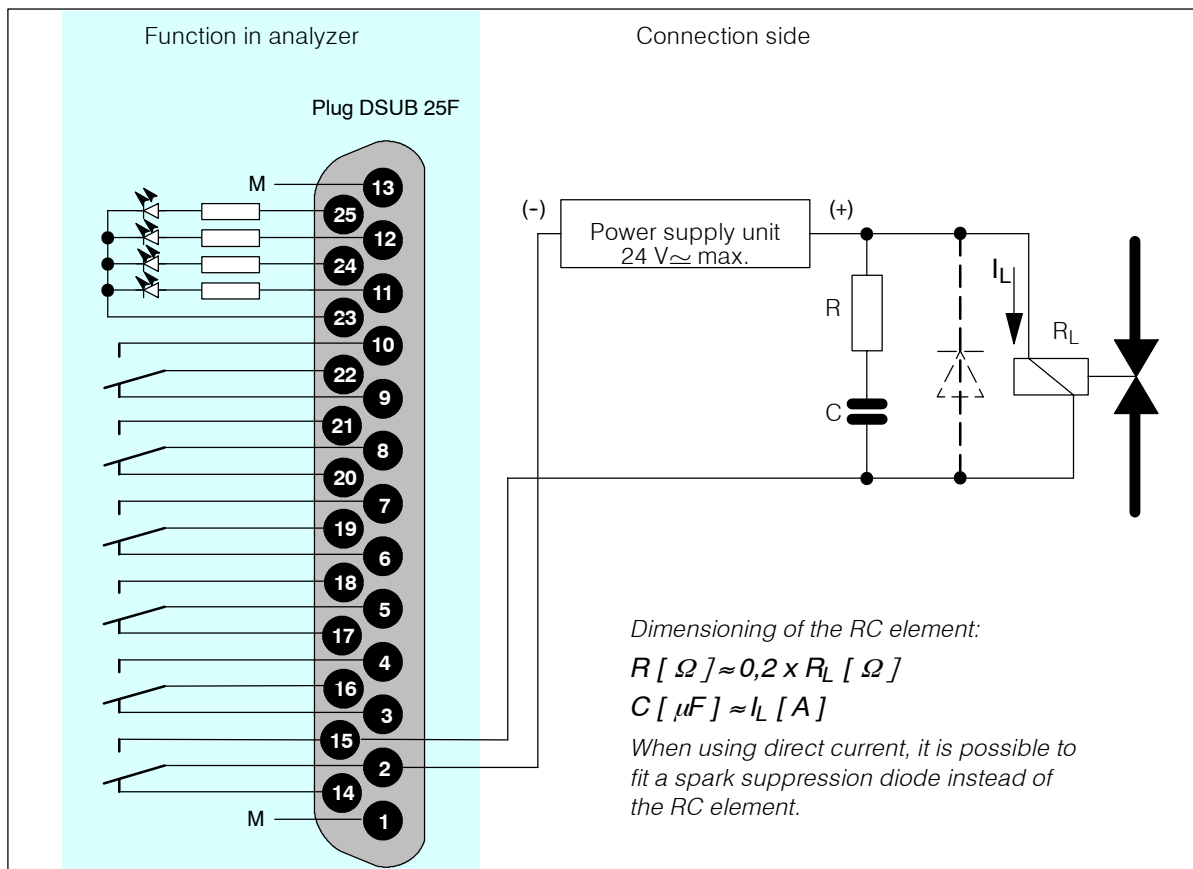

Fig. 2-2 Example of measure to suppress sparks on a relay contact
- RC elements must be connected according to Fig. 2-2 as a measure to suppress the generation of sparks across the relay contacts (e.g. limit relays). Note that the RC element results in a dropout delay for an inductive component (e.g. solenoid valve).